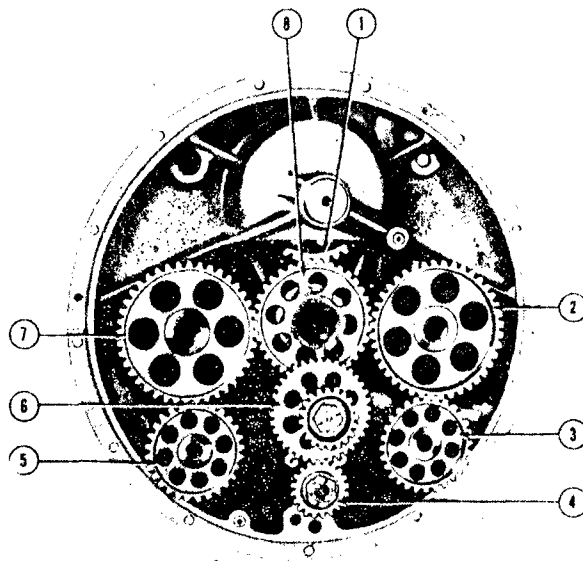

Figure 41 — Accessory Case Gears. Rear View
(4) Removal of accessory drive gears: (See figure 41.)